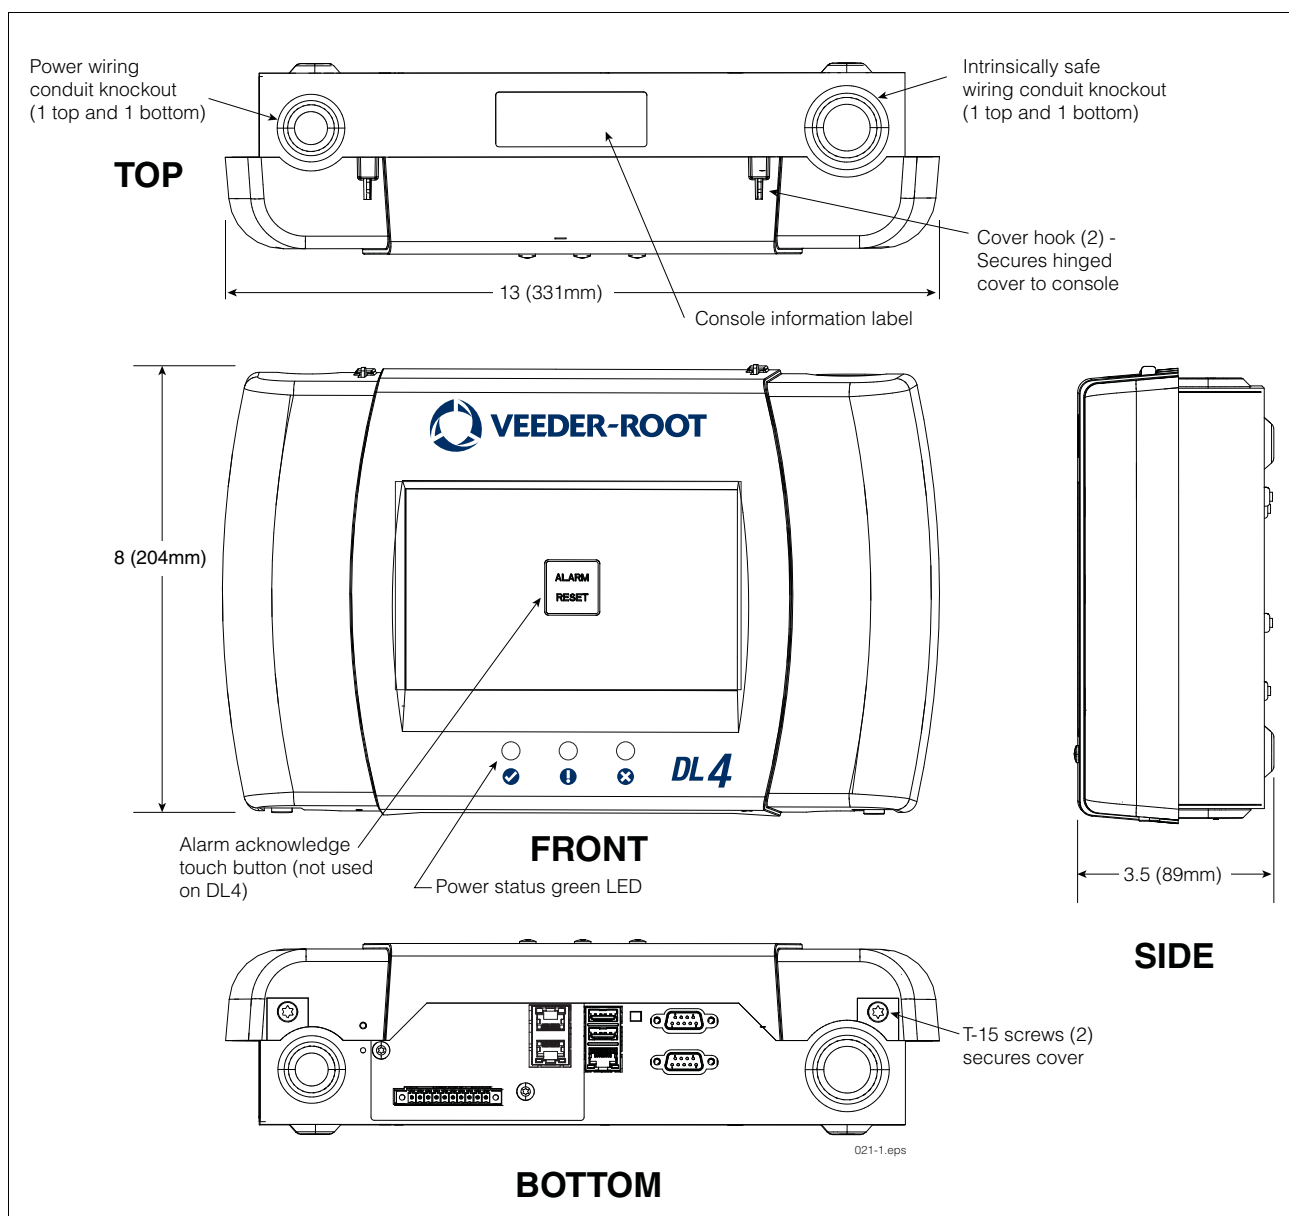
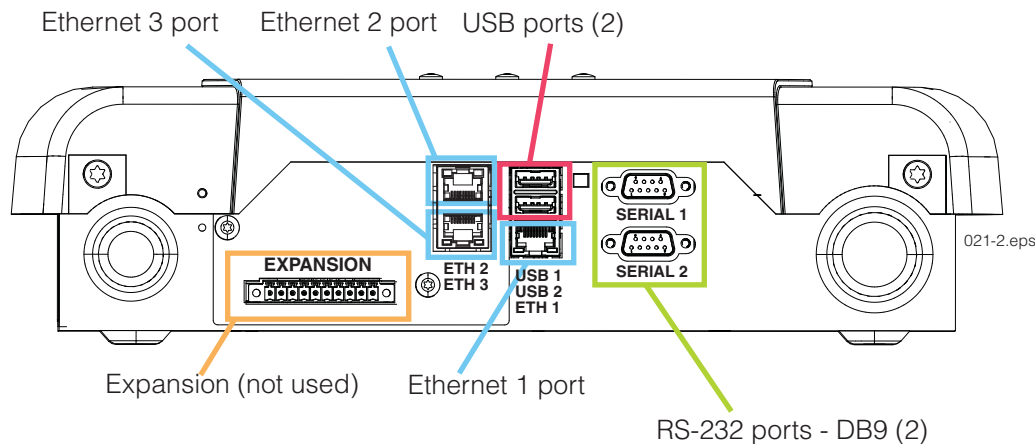
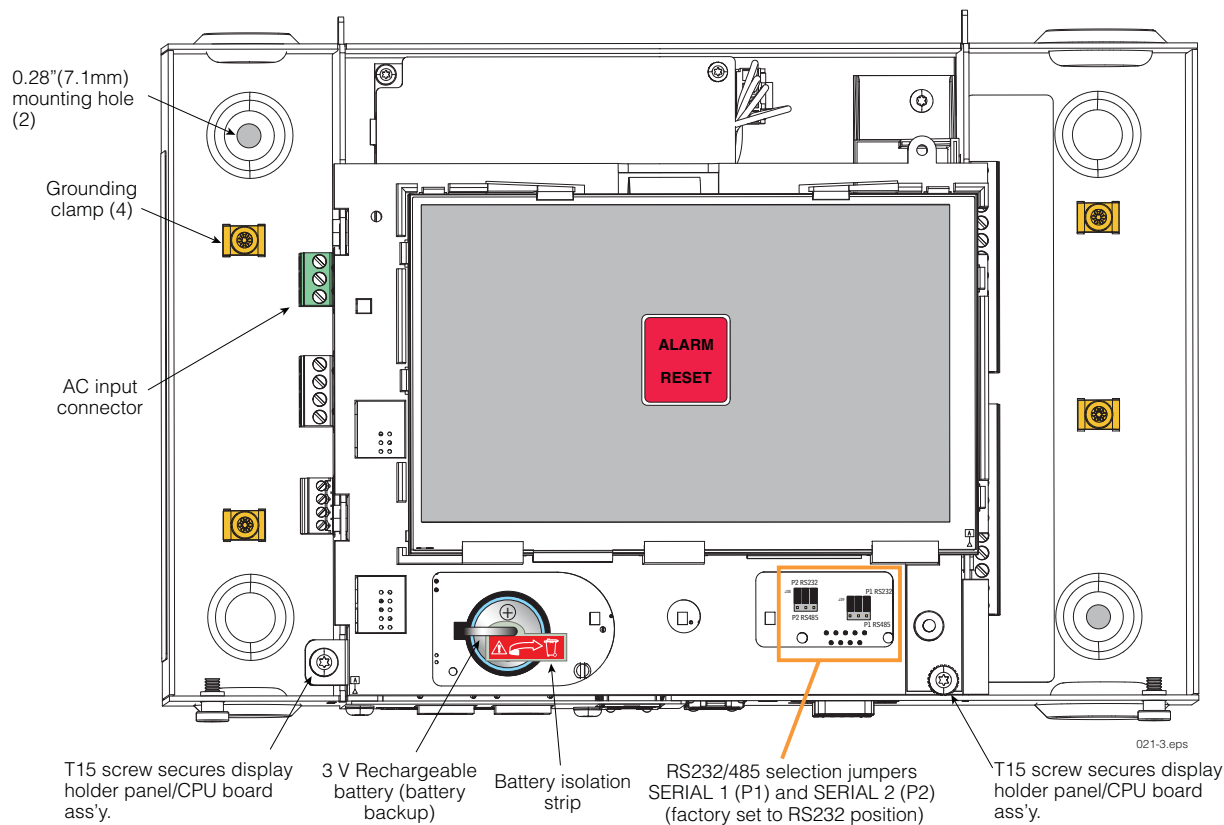

Figure 1. DL4 Console - Dimensions
Figure 2. Bottom Panel Communication Connectors
Figure 3. Component Locations with Cover Removed
Figure 1 illustrates the DL4 Console's dimensions.
Figure 2 illustrates the communication ports of the DL4. Figure 3 shows component locations and console mounting holes with cover removed.
To mount the console, remove the two T15 screws in the bottom of the cover (see Figure 1). As you lift up the bottom of the cover it pivots on two tabs that project from the top of the console's chassis into slots in the top of the cover. Lift the cover off the chassis tabs and set it aside. Notice the two 0.28" (7.1mm) diameter mounting holes in the base of the chassis at the left top and right bottom corners (see Figure 3). Locate the chassis on the wall in the desired mounting location, mark the hole locations, drill appropriate pilot holes; and using 1/4-inch (6mm) maximum fasteners (customer supplied), attach the chassis to the mounting surface.
1. Using an ethernet crossover cable, connect a laptop PC to ethernet port ETH 1 on the DL4 (see Figure 2).